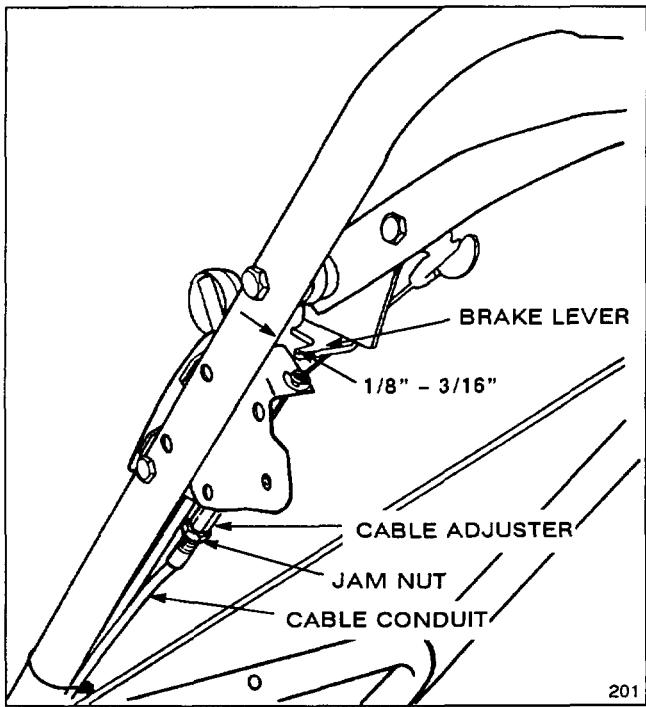

Figure 19
2. CHECK ADJUSTMENT (Fig. 19)—Move control bar toward handle until slack in wire is removed. Gap between brake lever and handle must be $1/8$ "– $3/16$ ". See step 3 for adjustment.
3. ADJUST CABLE CONDUIT—Loosen jam nut on cable adjuster (Fig. 19). Insert $1/8$ "– $3/16$ " object between brake lever and handle. Adjust cable conduit until slack is removed. Then tighten jam nut.